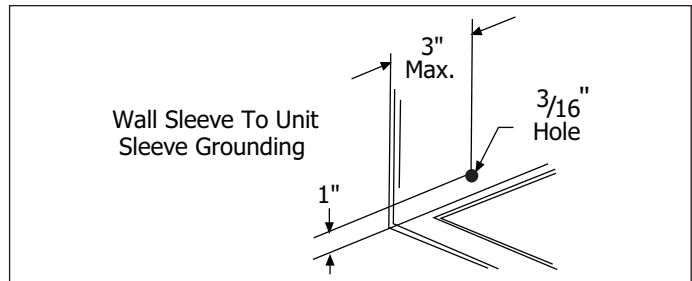

Figure 2-61.
- If not existing, drill a 3/16" clearance hole for grounding screw through left side of wall sleeve in a clear area about 3 inches maximum (to suit) back from front edge of sleeve as shown in Figure 2-61. Next attach ground wire inside sleeve, using grounding screw and nut. Pull loose end of ground wire out front of sleeve and temporarily bend it down and around lower edge of sleeve.